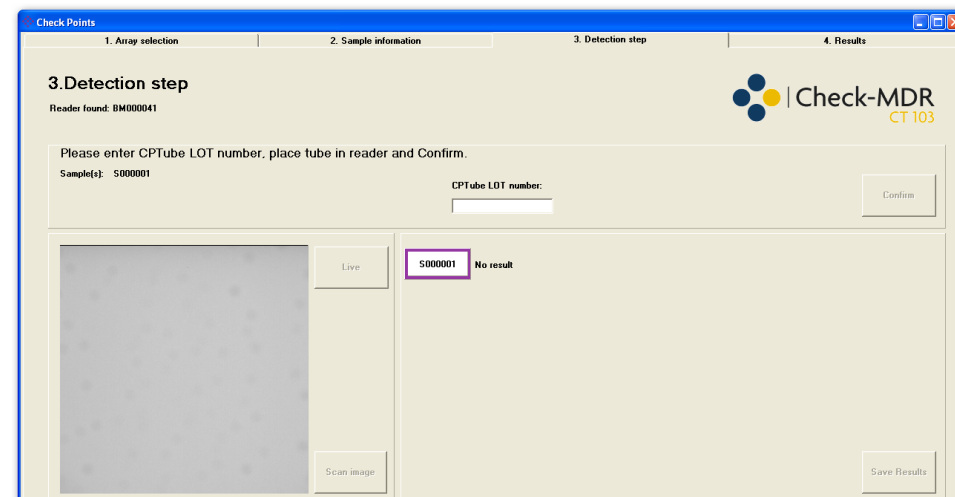

Figure 5: “Detection step”.
- f. Go to the “Detection step” screen (see figure 5) by clicking the “Next Step” button.